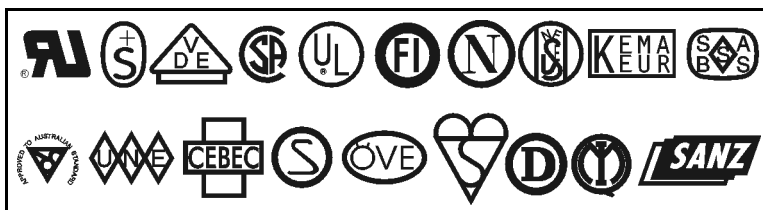

Figure 28
- The plug cap should bear the certification mark of a known international safety organization (see Figure 28).